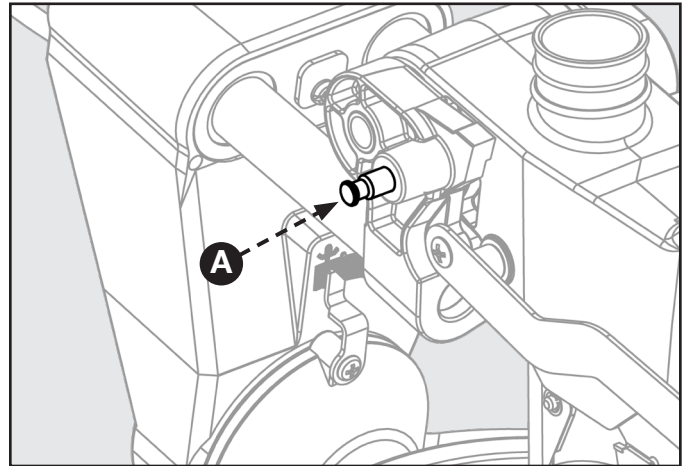

FIGURE 3
1. The saw is shipped with the arm secured in the down position as shown in Figure 3. To release the arm, push it down, cut the plastic tie and release the lock pin (A).
2. Lock pin (A) is for storage and transport only. Saw is not to be locked in down position during cuts.